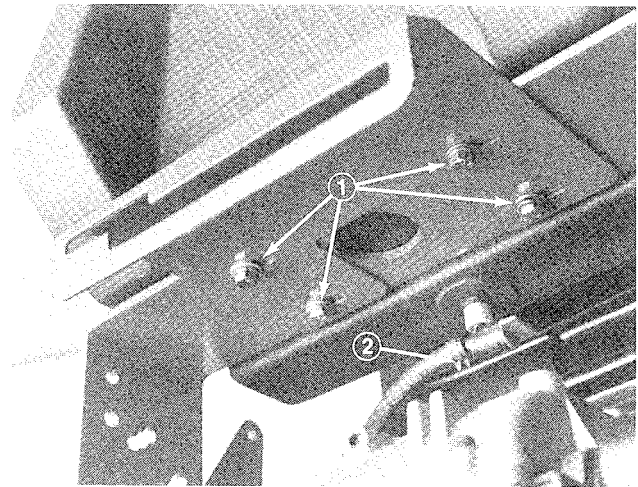

Figure 2
3. Secure fuel line to tank fitting with hose clamp (Fig. 2).
3. Move shift lever to reverse and 4th gear. Control panel mounting holes are slotted to enable it to be moved from side to side (Fig. 2). Position control panel as needed to achieve full shift range. Tighten mounting screws to a maximum of 90 in – lb. **DO NOT OVER TIGHTEN.**